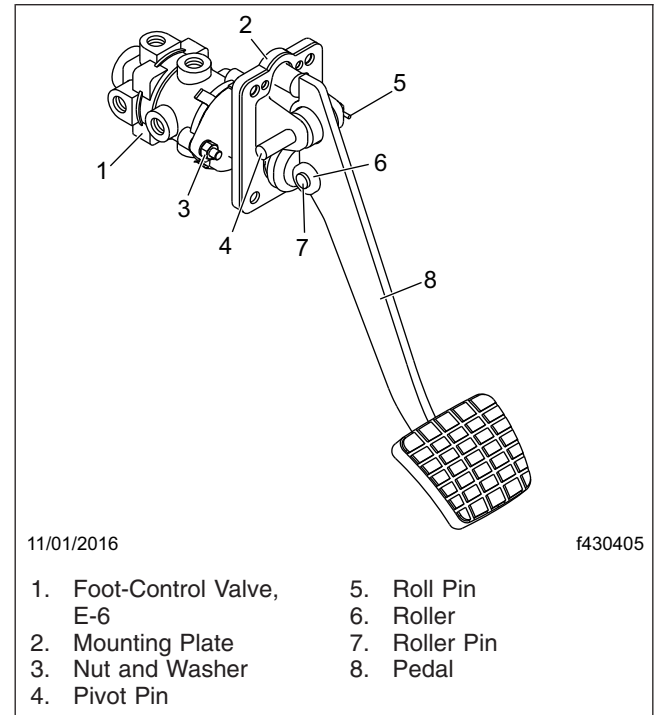

Fig. 14, Brake Pedal and Valve Assembly
2. Remove the roll pin from the brake pedal pivot pin. See **Fig. 14**.